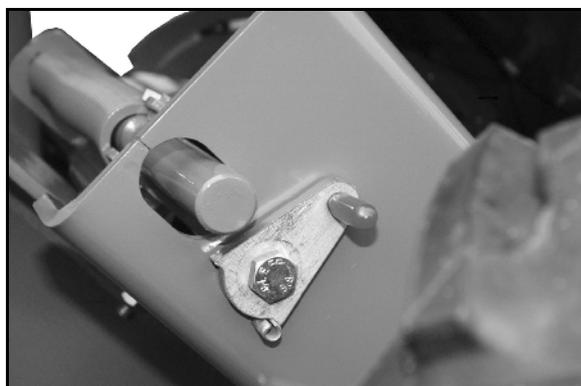

Fig. 25
3. Swivel the safety lever as shown in Fig. 25.